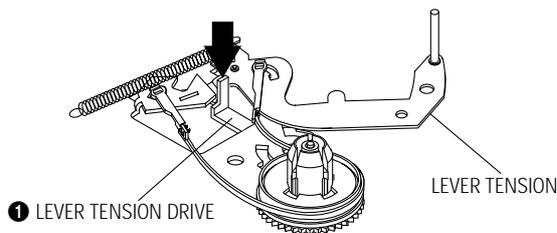

Fig. 5-14
- 2) Push the lever tension drive ❶ in the direction of arrow. (See Fig. 5-14)
- 3) Turn the gear worm wheel ❷ clockwise so that "Timing Point" of the slider FL drive ❸ and gear FL cam ❹ can be aligned (See Fig. 5-14)